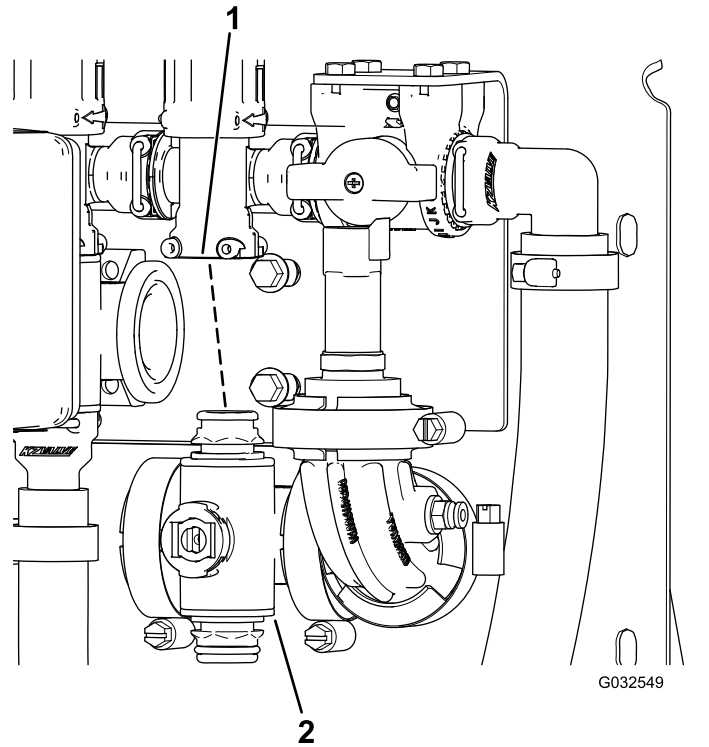

Figure 101
3. Remove the section-valve manifold from the machine (Figure 101).